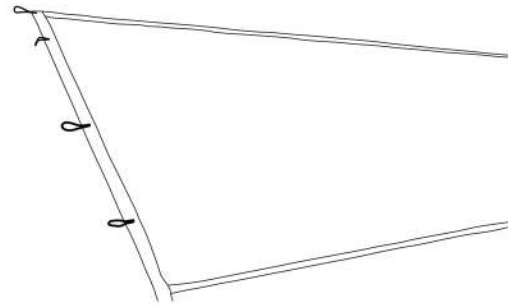

Figure 5. Four Loops
3. There are four loops sew on the rear of the side shade. (Refer to Figure 5) Use the loop that matches the pitch your awning the best, you may need to set the side shade up on the RV in different loops get the best fit.